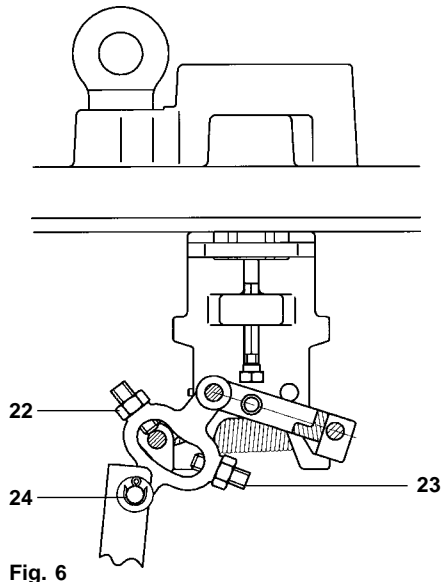
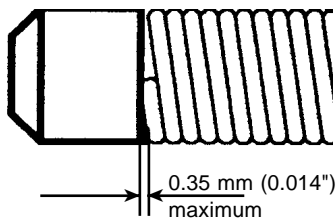

Fig. 6
Fig. 8
**Note:** The socket set screws (Fig. 6 items 22,23) are factory set and must not be disturbed during the following maintenance procedures.
- a) Remove shaft (item 24 Fig. 6) from mechanism end of connector rod and rotate float and connector rod to opposite side of pillar.
- a) Ensure exhaust and inlet seats (with inlet valve) are placed in correct locations (ref 4f) and torque tighten to 129 - 143 N m (95 - 105 lbf).
- e) Before fitting new spring assemblies, check that the spring anchor holes are in line and that the spring ends are within 0.35 mm (0.014") of the anchor's shoulder (Fig 8). **The spring ends may lightly touch the shoulders but must not bind against them.** Always use new split pins and washers when replacing springs and reassembling connector shafts.